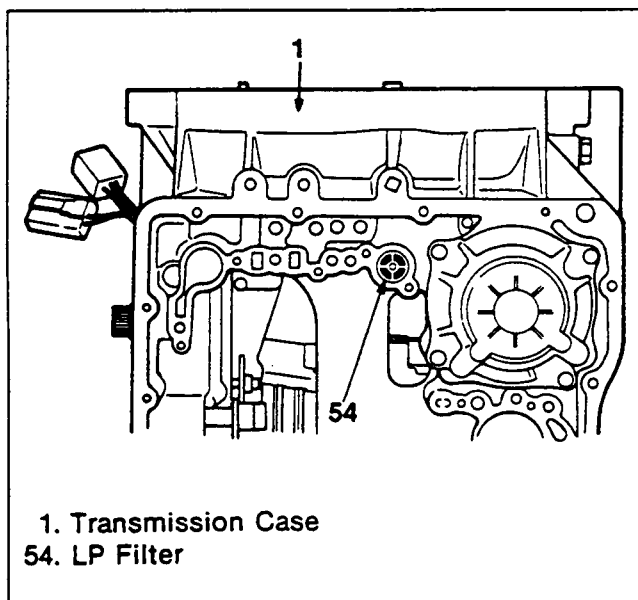

Figure 10a. LP Filter Removal
5. Remove the LP filter from the case (figure 10a).